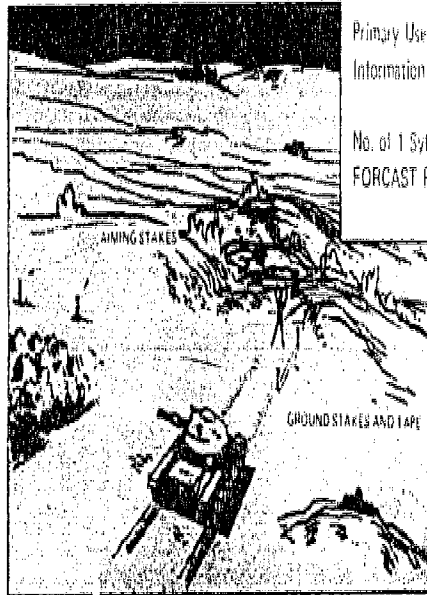

Figure 14-6. Method 2.
- (1) Complete the range card.
- (2) Crewmen place two ground stakes. (See Figure 14-6.)
- (3) Crewmen place the first aiming stake, which has a filtered or screened light.
- (4) The gunner moves the turret to the left or right to line up the aiming cross of the periscope with the aiming stake.
- (5) Crewmen place the second aiming stake.